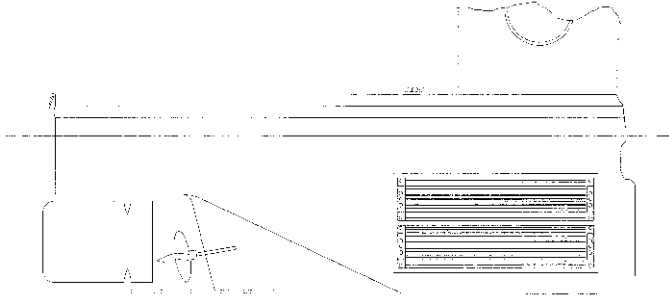

FIG. 4 Side mounted coolers well below water line.
- 1.2.2 When installing a unit on the side of a hull, position it well below the water line to avoid aerated surface water. Take the bow wave into consideration. Aeration reduces heat transfer and can cause overheating. See Figure 4.